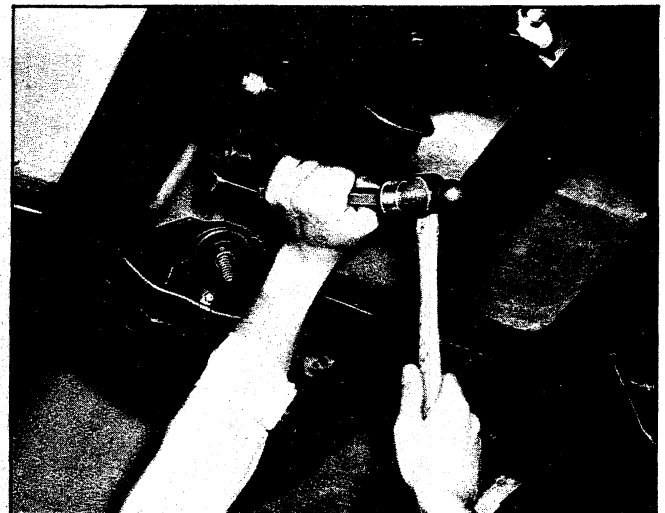

Fig. 93—Removing Companion Flange
9. Remove companion flange by driving off with brass drift and hammer (fig. 93).